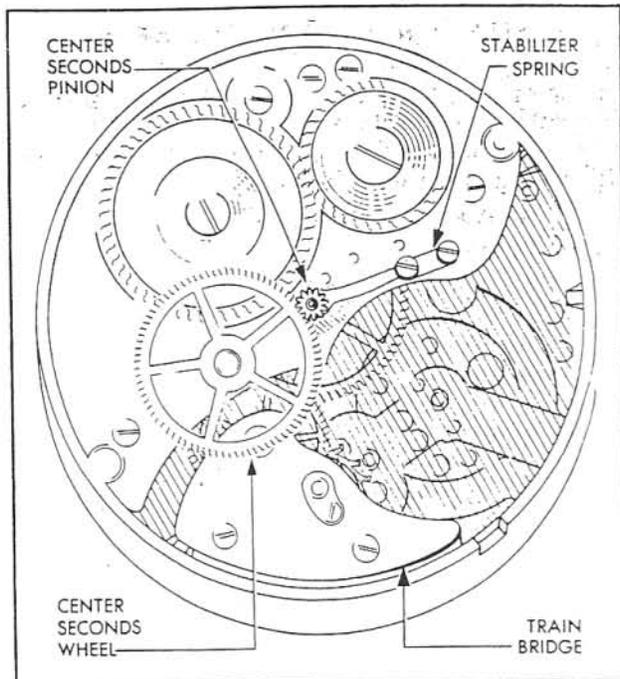

Figure 15—Location of Center Seconds Pinion and Stabilizer Spring
(3) CENTER SECONDS BRIDGE.—Loosen and remove the single screw holding the center seconds bridge. Lift off the bridge.
(4) CENTER SECONDS PINION AND STABILIZER SPRING. (See figure 15.)—Withdraw the